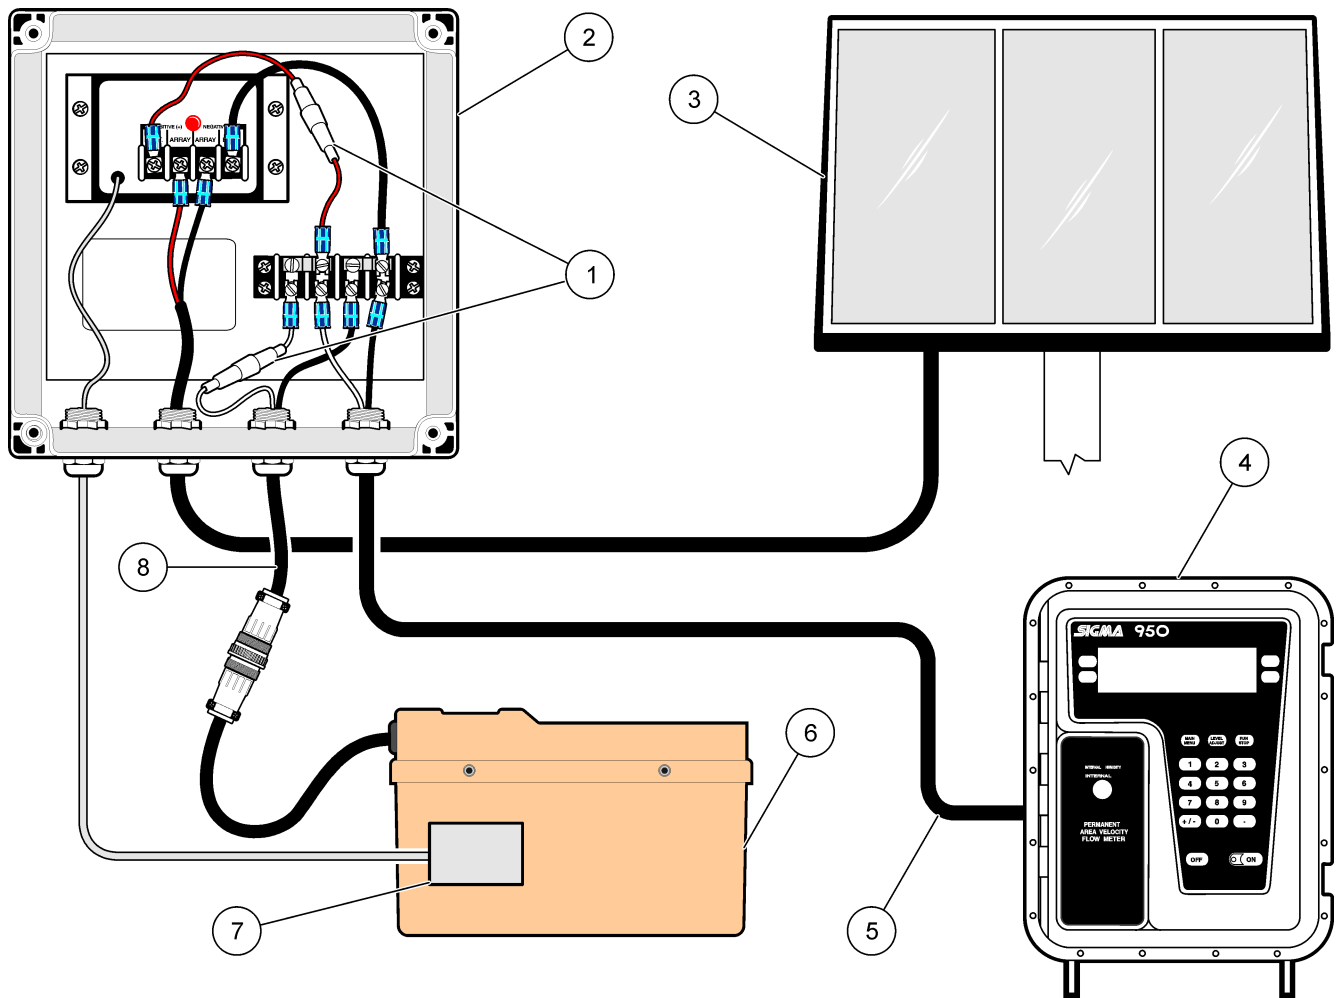

Figure 7 Set up a 950 flow meter with a gel battery
5. Remove the nut from the flow meter cable strain relief and feed the cable through the fourth hole on the regulator. Thread the nut over the wires and tighten to secure. Connect the spade terminals to the screw terminals as shown in Figure 7 on page 8.
7. Remove the nut on the battery cable strain relief and feed the battery cable through the third hole on the regulator. Thread the nut over the wires and tighten to secure. Connect spade terminals to the screw terminals. Refer to Figure 7 on page 8.
8. Connect the appropriate end of the battery cable to the appropriate battery type. Figure 7 on page 8 shows a 950 flow meter with a 1414 battery.